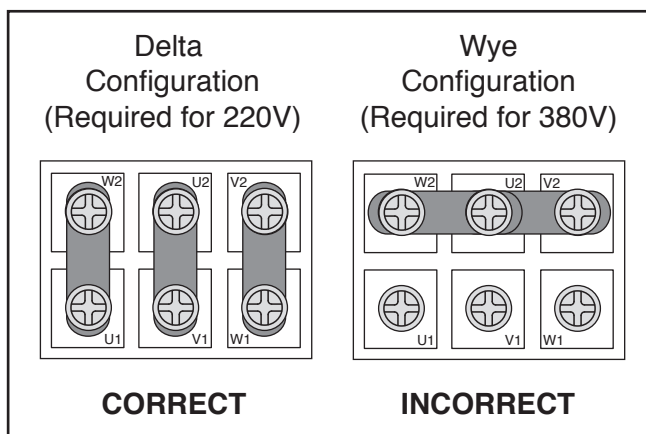

Figure 69. Vacuum pump junction box configurations.
3. Verify terminal jumpers are arranged in 220V delta configuration (see **Figure 69**).